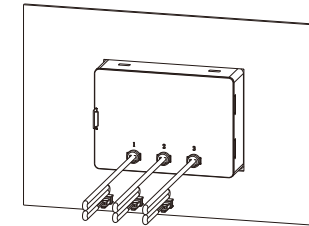

Figure 2
②As the Figure 2 shows, insert the controller into the rectangle hole.